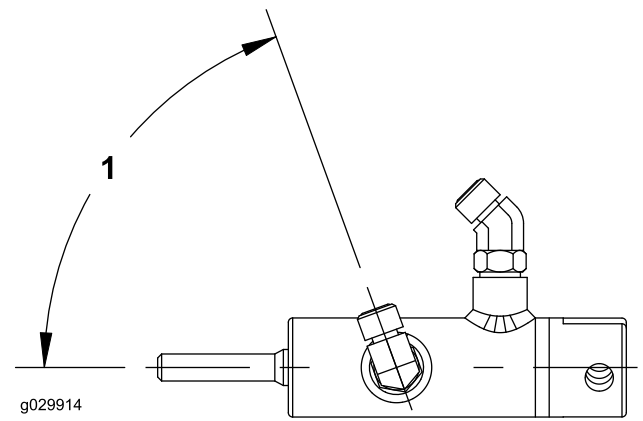

Figure 4
6. Rotate the open end of the fitting 70 degrees as shown in Figure 4.